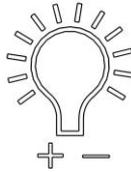

Figure 4: Display Unit Light Button
8. Simultaneously press the “SHUTDOWN RESET” and Light (**Figure 4**) buttons on the display unit to override the system and silence the alarm. This concludes the installation check.